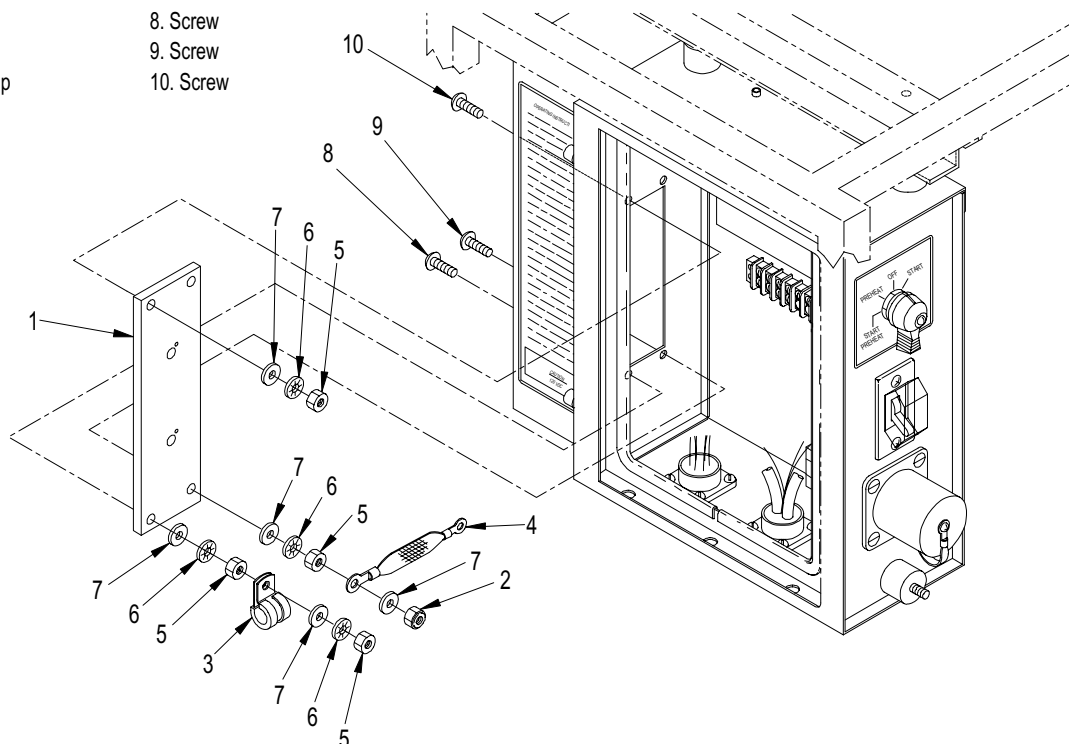

Figure 4-39. Load Terminal Board (MEP-501A and Mechtron Sets)
- (1) Shut down generator set.
- (2) Remove load terminals, refer to paragraph 4.38.b.
- (3) Remove nut (5, Figure 4-39), lockwashers (6), washers (7) and electrical wiring with p-clamp (3) from screw (8).
- (4) Remove locknut (2), washers (7), lockwasher (6), ground strap (4), and nut (5) from screw (9).
- (5) Remove nuts (5), lockwashers (6), washers (7), screws (10), and load terminal board (1) from control panel.
- (1) Install load terminal board (1, Figure 4-39) on control panel with screws (10), washers (7), lockwashers (6), and nuts (5).
- (2) Install washers (7), lockwasher (6), nut (5), ground strap (4) and locknut (2) on screw (9).